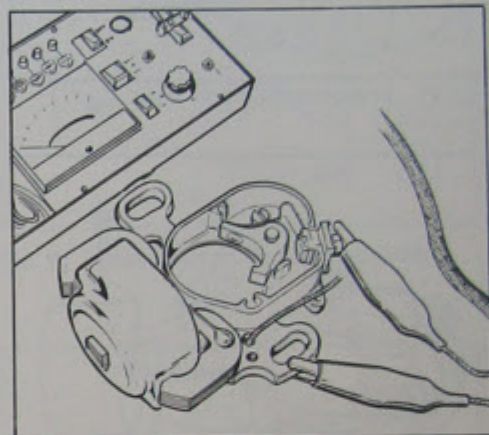

Fig. 19 Testing coil insulation
- Check coil outer insulation for leaks with tester (Fig. 19). if a tester is not available, the engine may be tested with a new coil.